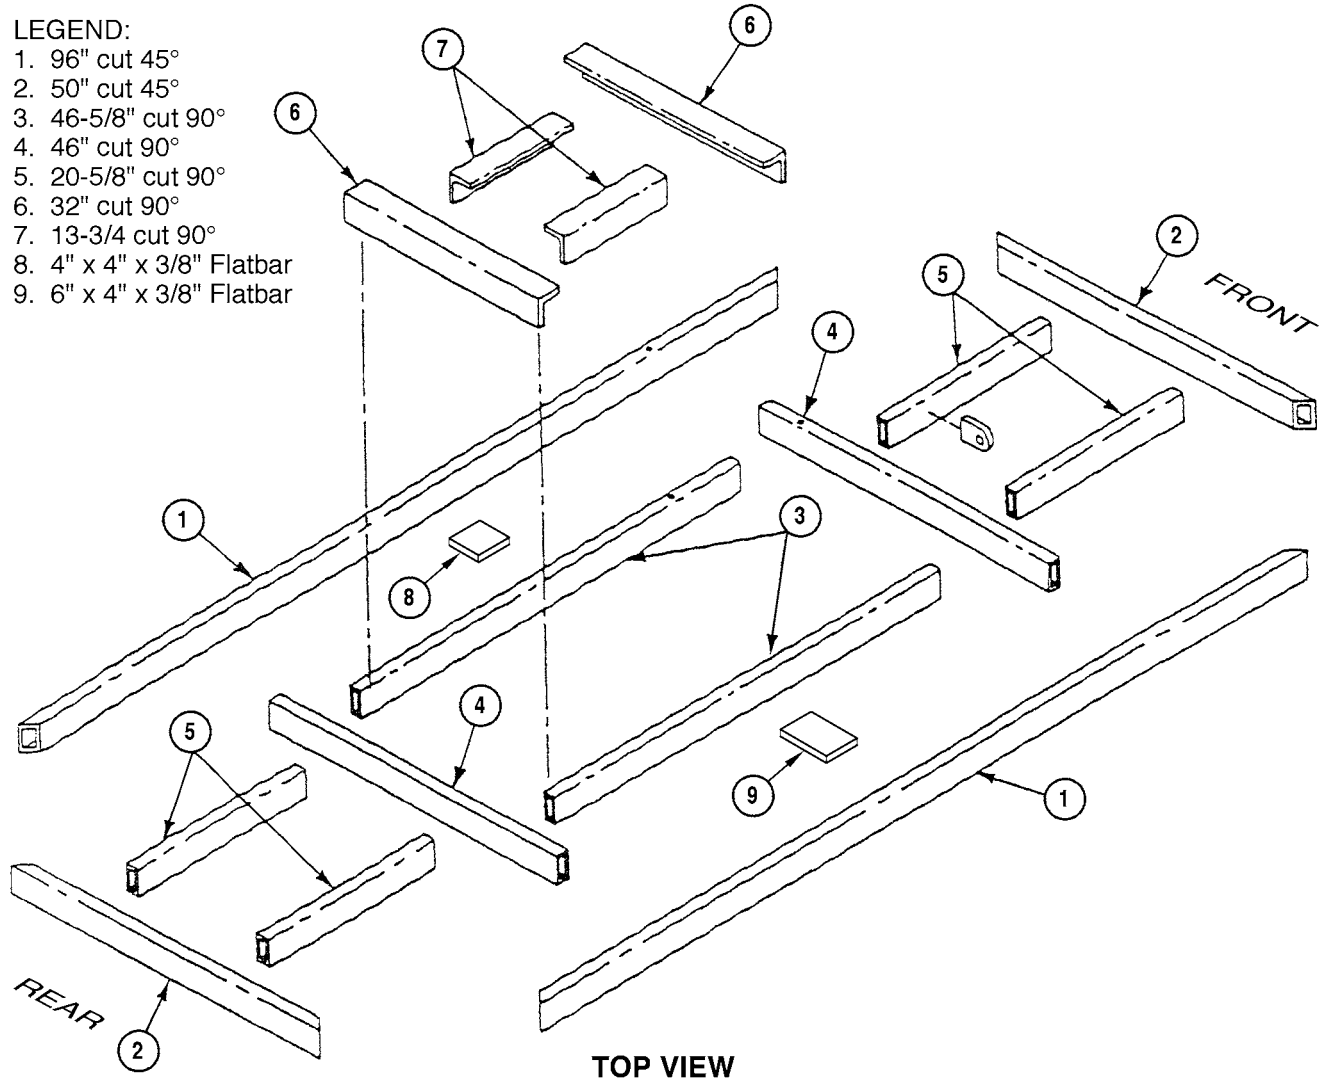

Figure 2-1. Frame Assembly Layout—Top View
1. Cut ends of rectangular steel tubes (1, 2) at 45° angle, final length to be 96 inches (243.8 cm) and 50 inches (127.0 cm) respectively. Lay steel tubes on flat level surface in accordance with Figure 2-1. Weld ends together. (See TM 9-237.)
2. Lay rectangular steel tubes (3, 4, and 5) inside box frame in accordance with art in Figure 2-1 and dimensions in Figure 2-2. Tack weld all steel tubes together.
3. Align steel angles (6 and 7) within welded framework in accordance with art in Figure 2-1 and dimensions in Figure 2-2. Tack weld all joints.